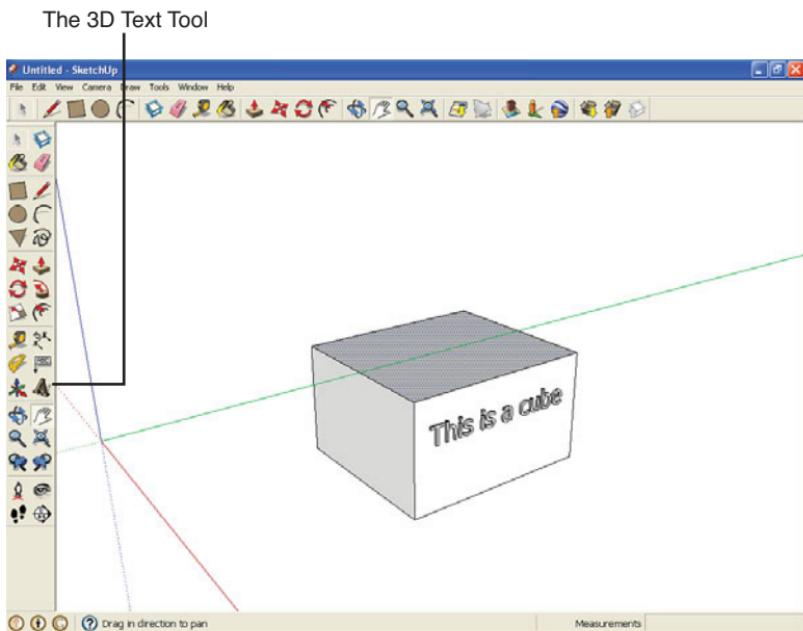
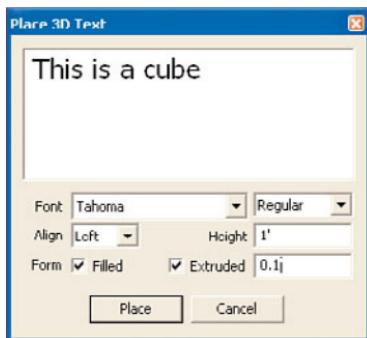

FIGURE 4.16 Using the 3D text tool.
FIGURE 4.17 Customizing 3D text.
SketchUp also lets you draw 3D text with the 3D text tool. For example, take a look at the 3D text that appears in Figure 4.16.
It's important to note that 3D text is treated as a shape, unlike 2D text. 3D text becomes part of the model, whereas standard 2D screen text does not. And even while annotated text becomes part of the model, it's only there to tag parts of the model, not become part of it. The text in Figure 4.16 is part of the model and appears as a structural element in the model.
3. Click the **3D Text tool** in the large toolbar (shown in Figure 4.16). The dialog box, labeled Place 3D Text, appears, as you see in Figure 4.17.